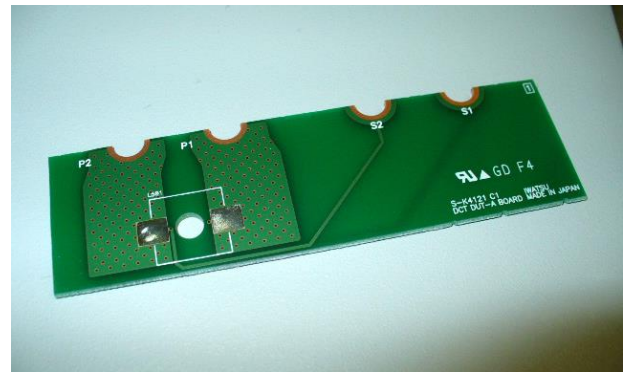

Fig. 4-13 Dedicated printed-circuit board
- (1) Mount the surface mounting part on a dedicated printed-circuit board, an accessory of SY-960, shown in Fig. 4-13, by soldering.